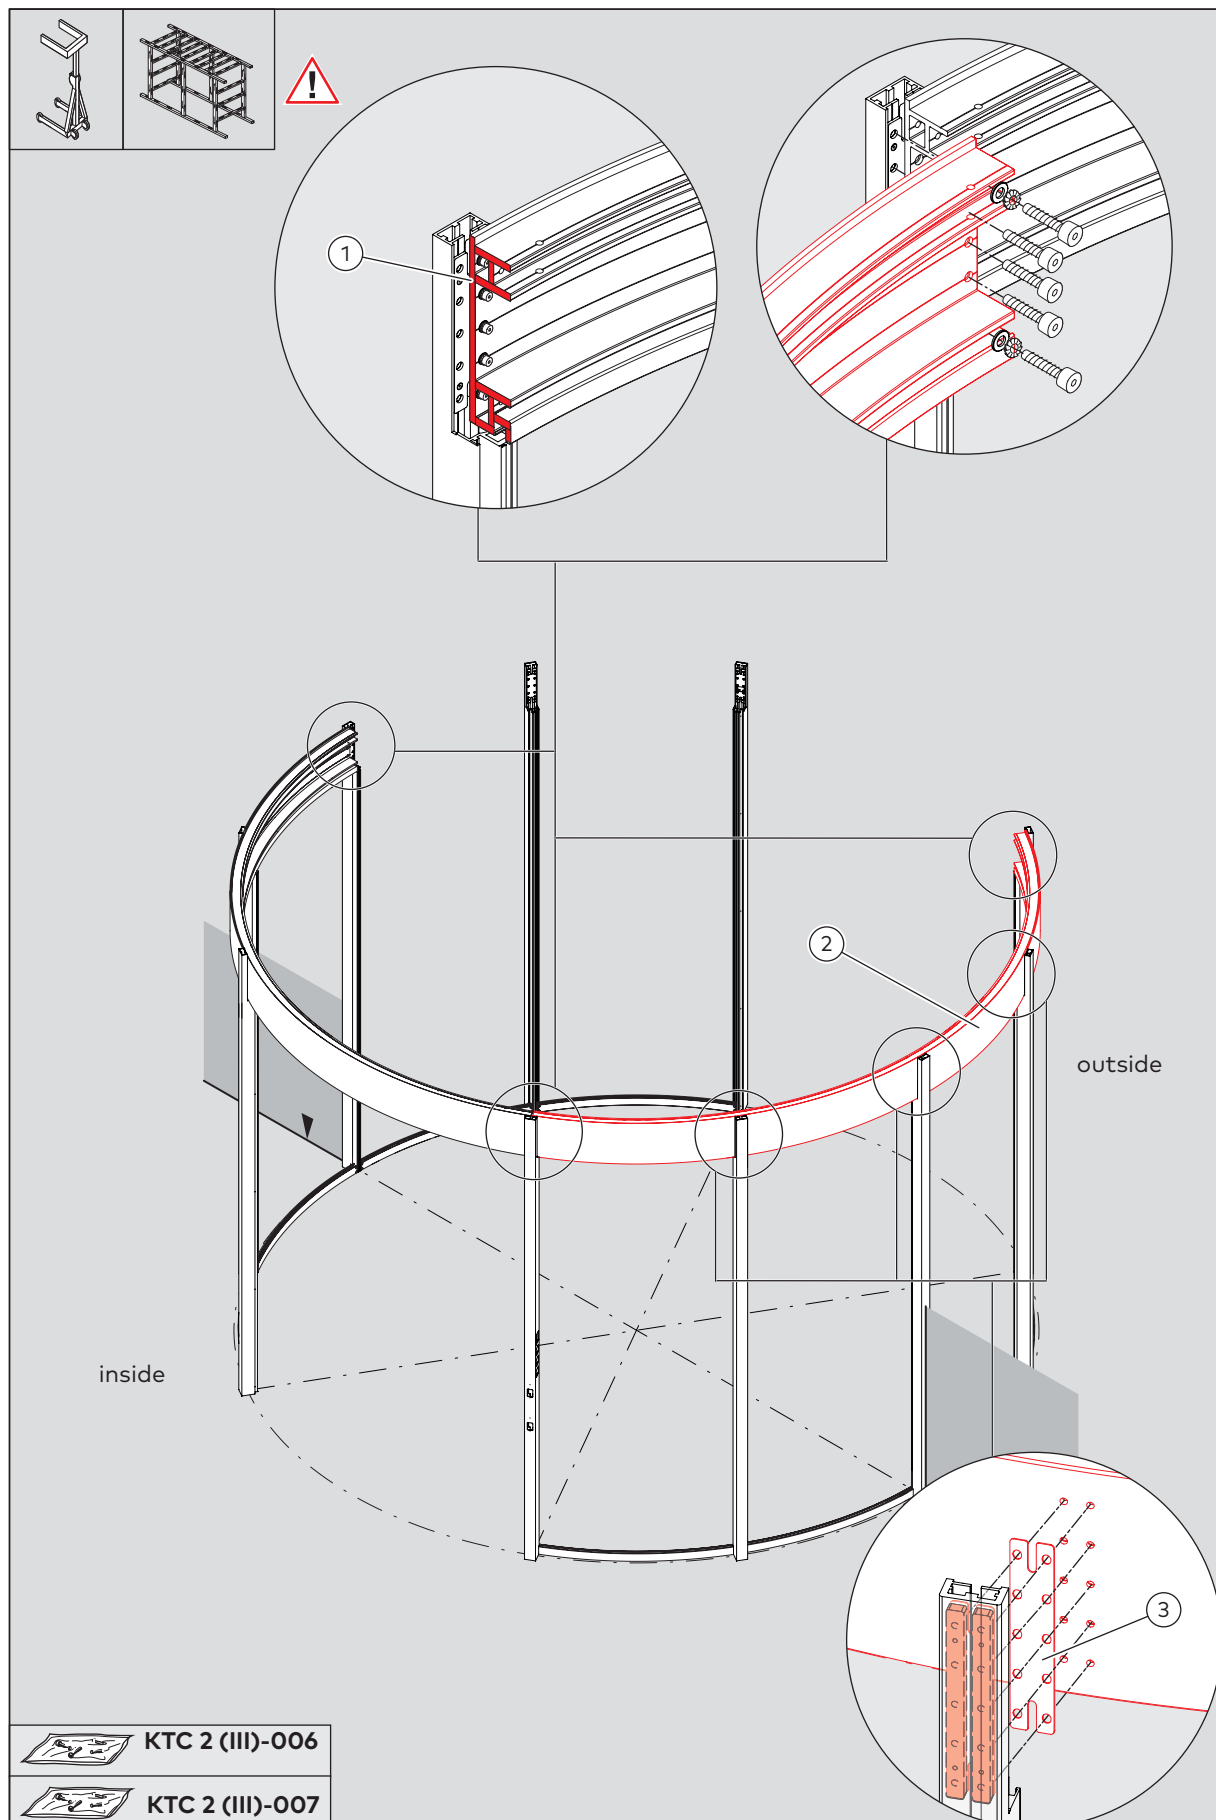

Fig. 32 Installation of the middle track rail
3. Make sure that the sound insulation (Fig. 32/1) is installed at the ends of the track rails.
4. Fasten the middle track rail (Fig. 32/2) to the posts using 1 distance plate (Fig. 32/3) per post. Do not tighten the screws yet.